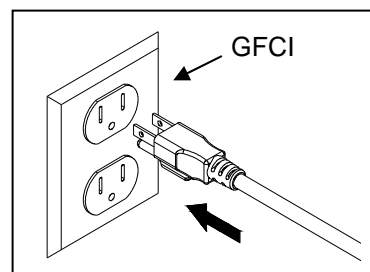

Fig. 9
9. Connect the pump to a proper power source. Check for leaks, then fill in the hole with dirt. Then decorate with rocks and plants as desired. Fig. 9